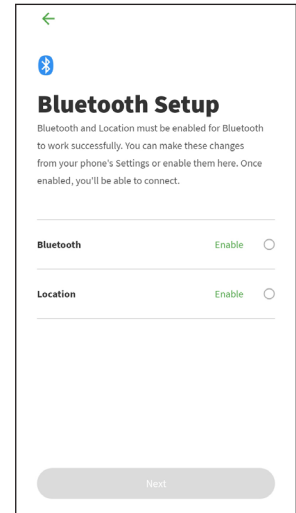
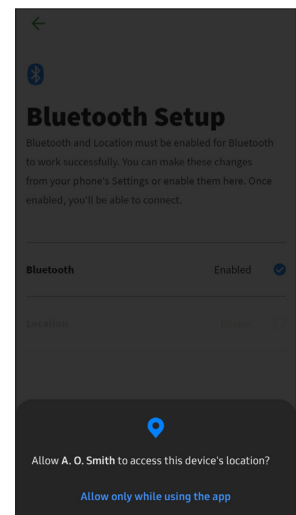

Figure 159 - Enable Options
Figure 161 - Allow Location
- 2 Enable Bluetooth on your device. You may do so by selecting the enable button in app (Figure 159), or manually from your device settings.
- 3 Enable Location on your device. You may do so by selecting the enable button in app (Figure 159), or manually from your device settings. Allow the app to access your device’s location when prompted (Figure 161).